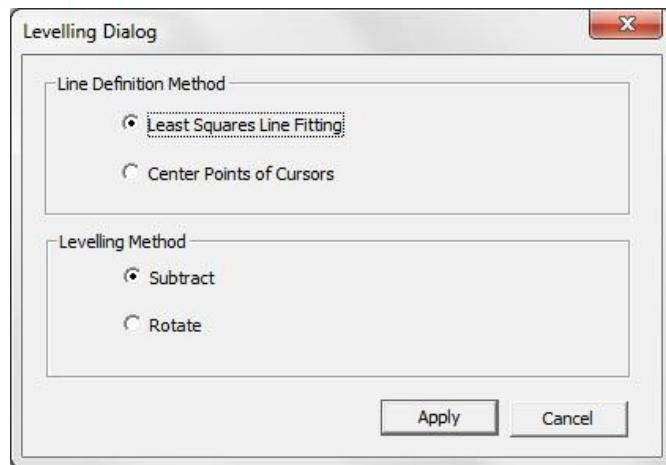

Fig. 67. Levelling dialog box
3. Select *Levelling*. The dialog box shown in Fig. 67 appears.